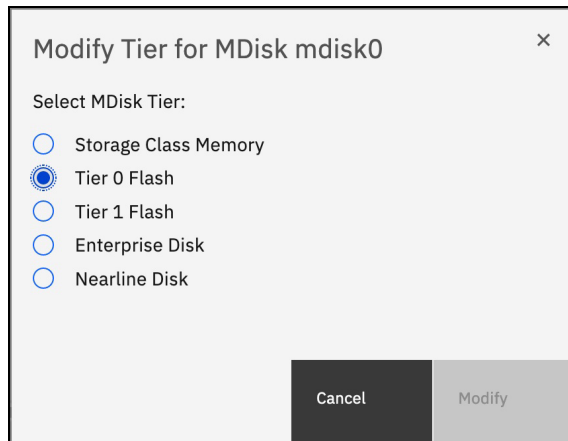

Figure 4-28 Select wanted MDisk tier
3. The new window opens with options to change the tier (Figure 4-28).